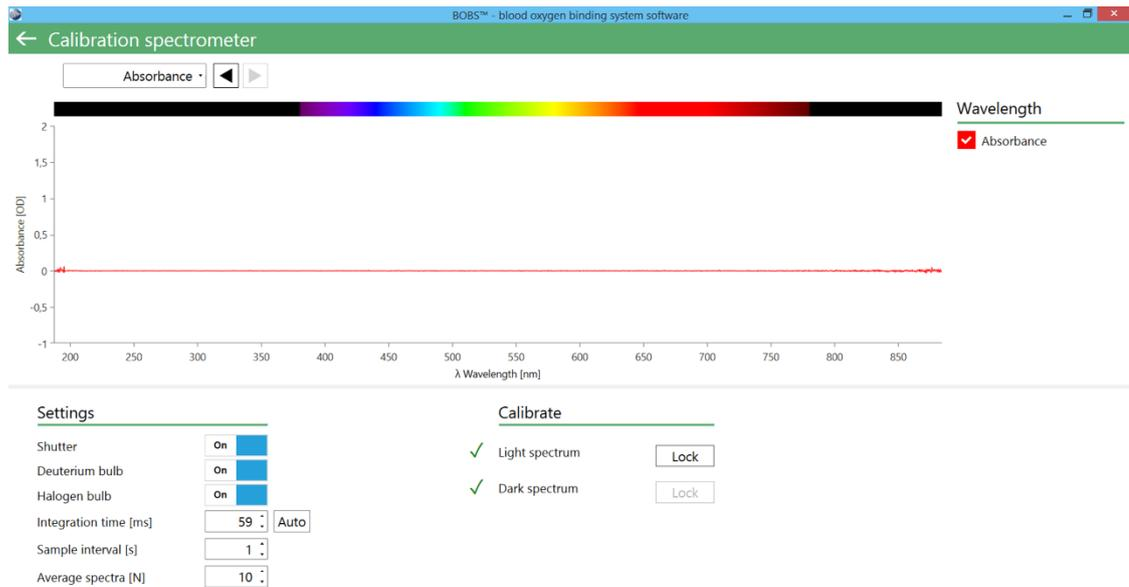

Figure 14: Absorbance spectrum.
11. Go to the absorbance graph. You should now see a straight red absorbance line at OD = 0 (Figure 14). If you are not satisfied with the absorbance spectrum repeat steps 8 to 11.